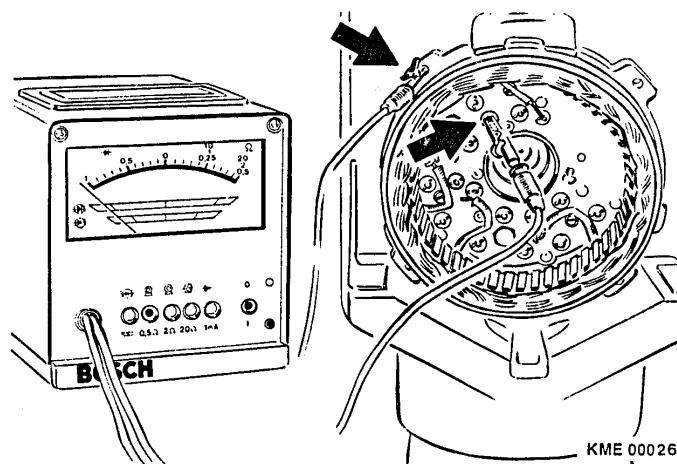

Figure 11 Testing of Rectifier Assembly
a. Using tester WPG 012.00 (Bosch Number 0 684 201 200) (Figure 11)